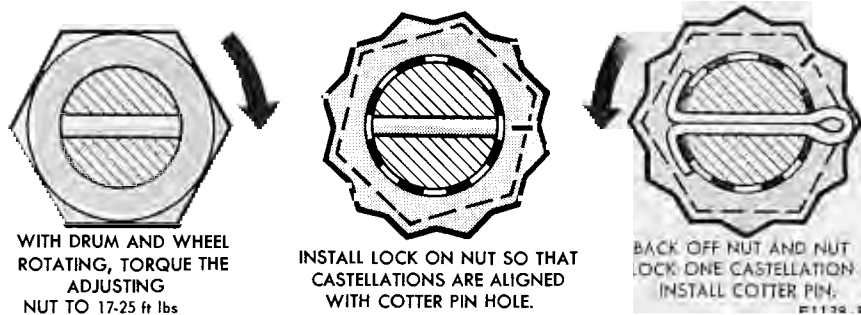

FIG. 31—Front Wheel Bearing Adjustment
14. Install the outer bearing cone and roller assembly and the flat washer on the spindle; then, install the adjusting nut (Fig. 31).
15. Adjust the wheel bearings (Fig. 31) and install a new cotter pin. Bend the ends of the cotter pin around the castellations of the nut lock to prevent interference with the radio static collector in the grease cap. Install the grease cap.